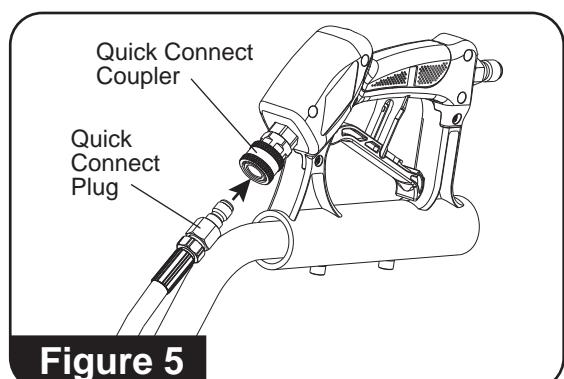

Figure 5
5. Attach the quick connect plug to the quick connect coupler. **(See Figure 5)**